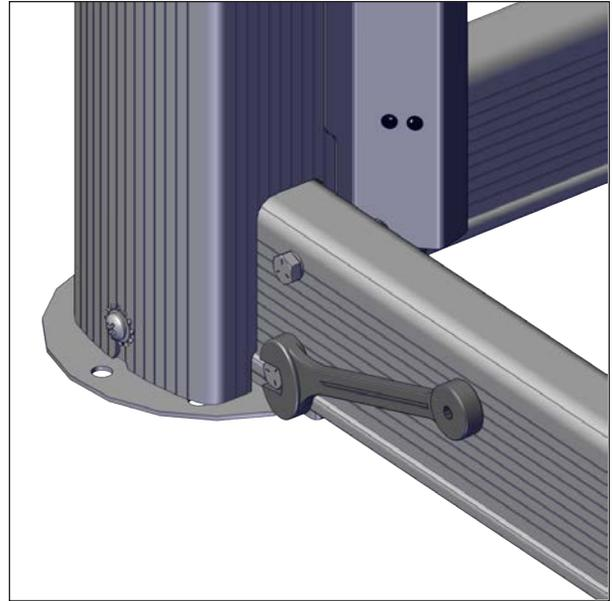

FIGURE 38: TIGHTEN BOTH SCREWS
11. Make sure no wires are pinched and tighten both screws on the U-frame, see Figure 38.